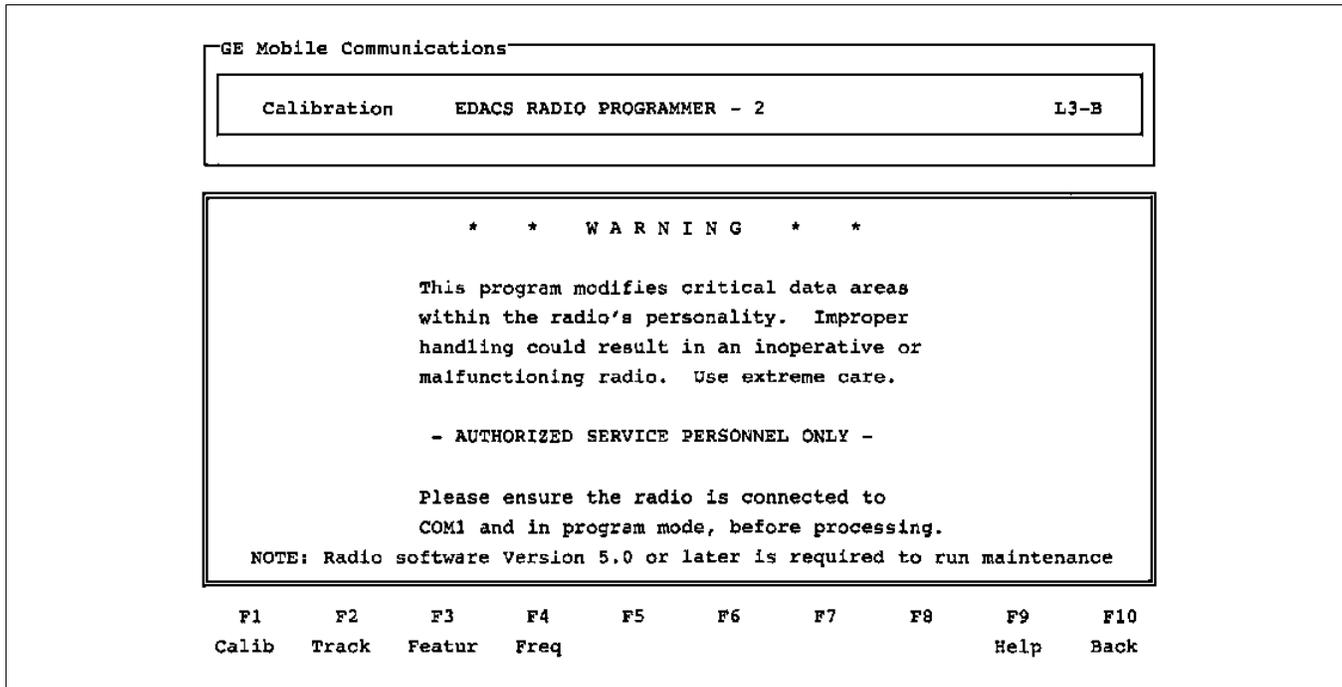

Figure 7 - Utility Program Maintenance Screen
1. From the Maintenance Screen shown in Figure 7, press **F1 Calib** to enter the Calibration Screen. The first screen to appear should be the "Tx High Power Calibration" window. If this window is not on the screen, then use the **F1 Next** or **F2 Prev** keys to toggle to the correct window.